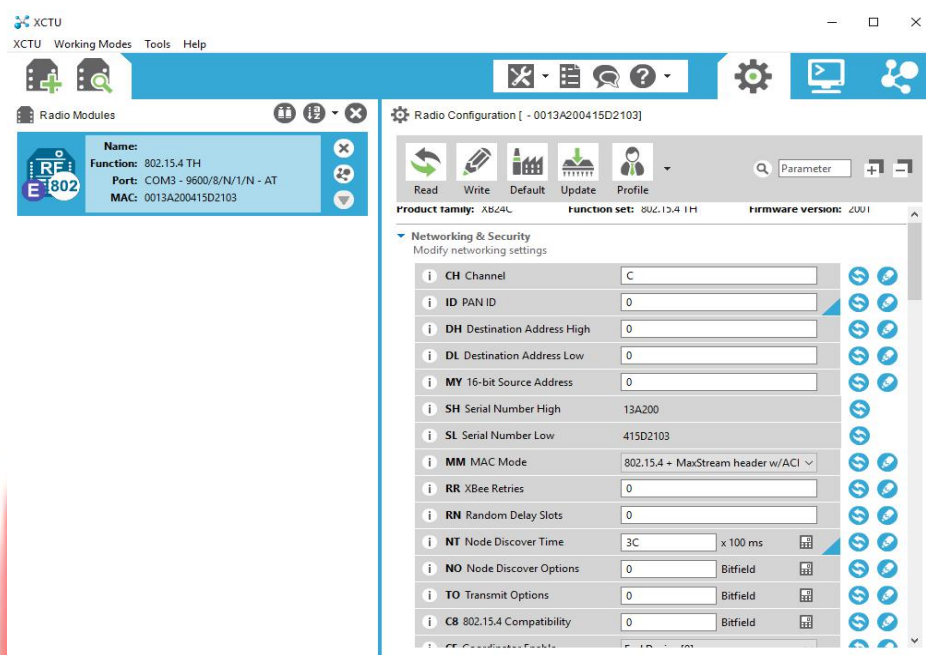

Figure 11: XCTU window
9. **Configuring the XBee settings** - Once the Firmware Update is complete, the XCTU window will resemble Figure 11.